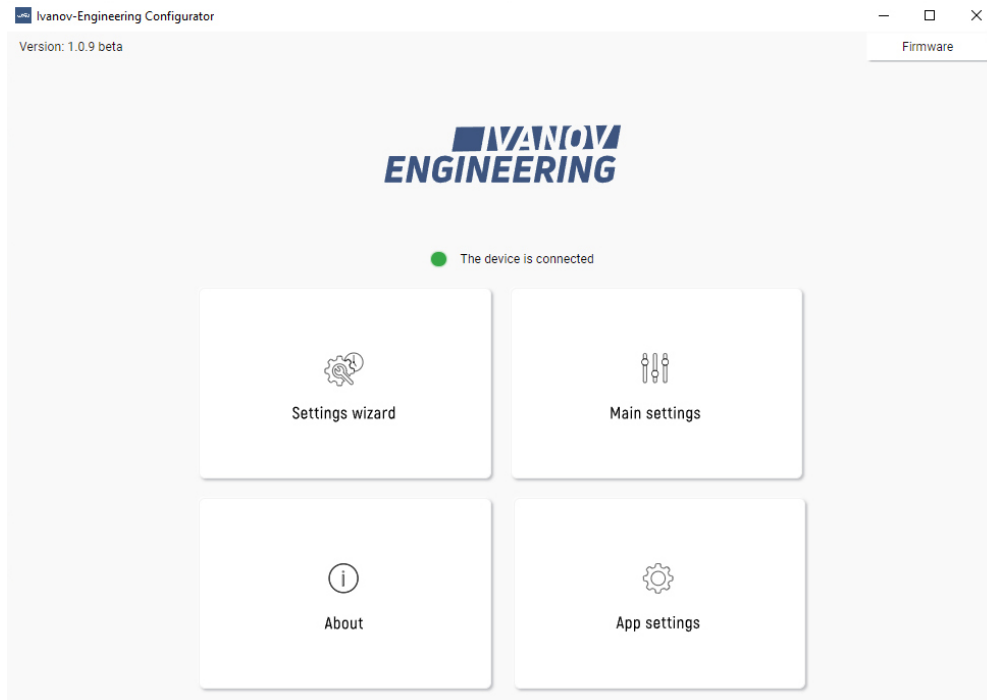

Fig. 8b - Main program window when the device is connected
- **green** – the device is connected (see Fig. 8b),
From the window shown in *Fig. 8b*, you can go to the sections **About** and **App settings**.